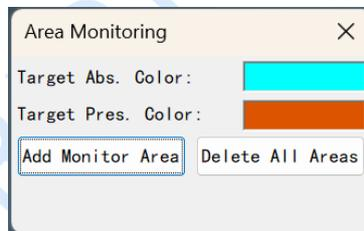

Figure 6-13 Area Monitoring window
- Step 3: Click the **Area Monitoring** button, the Area Monitoring window will appear, as shown in Figure 6-13;